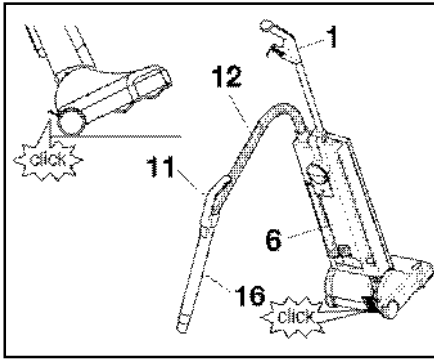

Figure 1
Using the Attachment Tube, Hose & Attachments - Figures 1 & 2
The attachment tube (16) is useful for vacuuming corners and hard-to-reach areas. The handle grip (1) should be in the upright, locked position (as shown in figure 1). Grip the attachment tube handle (11), pull it up and away from the machine and stretch out the hose (12) until it locks (this locking action will prevent the hose from retracting back into the attachment tube while it is in use). Various attachments may be inserted onto the end of the tube. After use, remove attachment and re-insert the attachment tube into the back of the machine. **Be sure that the attachment tube handle (11) is inserted over the projection tab (see #22, page 5).** If the attachment tube handle is properly seated over the projection tab, the hose will automatically retract and you may resume vacuuming. There is no need to turn off the vacuum while switching from upright vacuuming to using the attachment tube or hose.